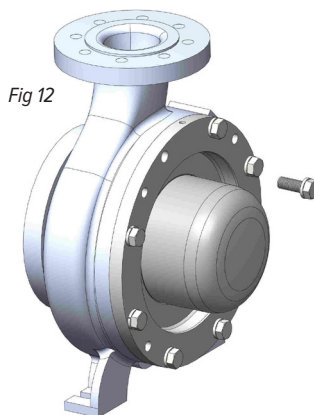

Fig 12
6. Using a 24 mm socket, remove the (8) M16 hex head bolts that connect the clamp ring (item 7) to the casing. See figure 12.